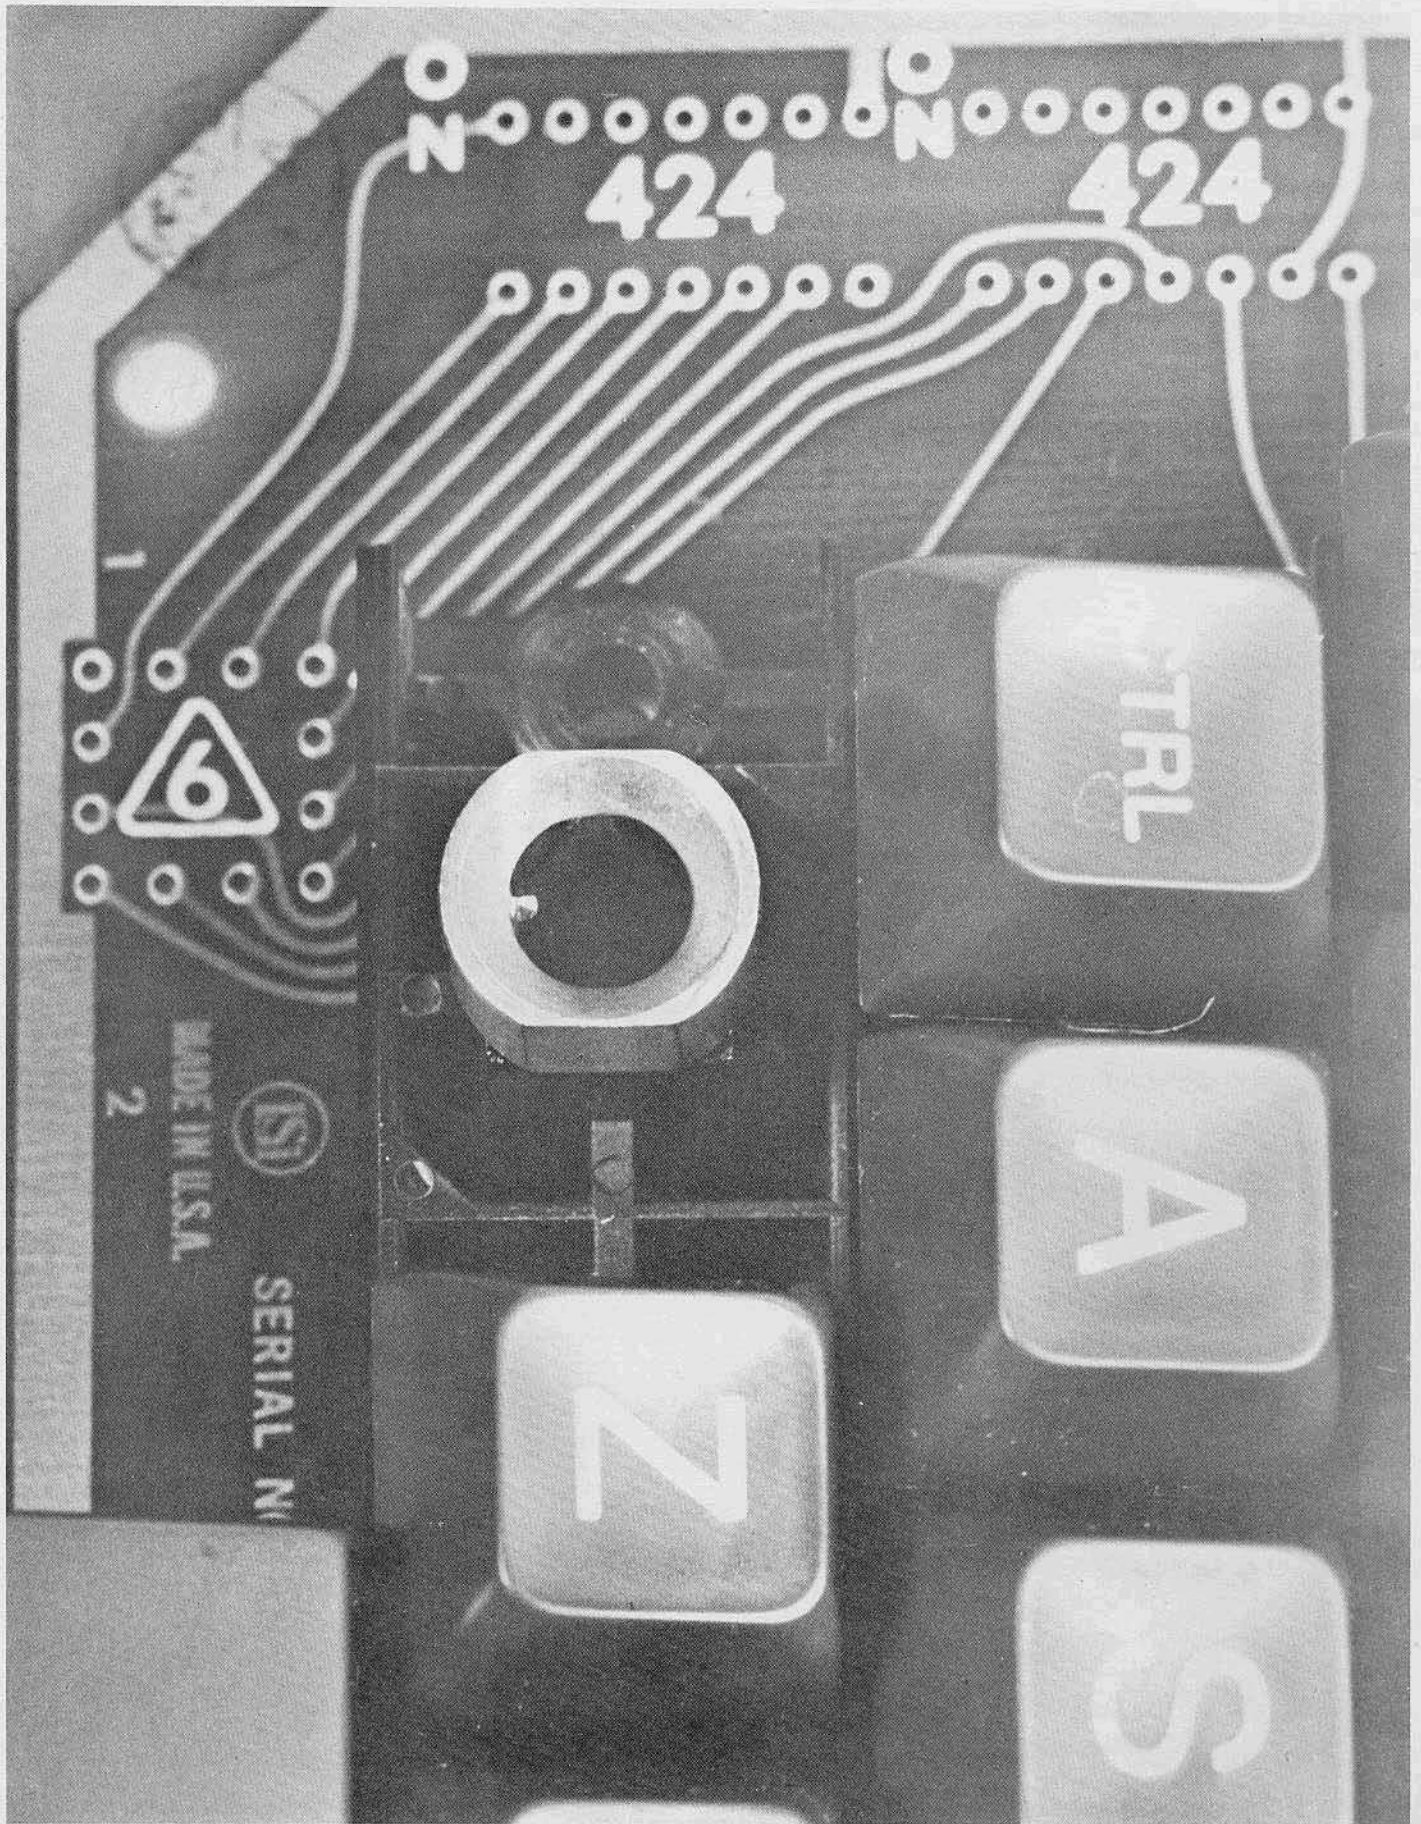

Figure 5-6.
- g. Place the insertion tool guide in the switch housing making sure that the keyway is towards the front of the keyboard. (See figure 5-6).